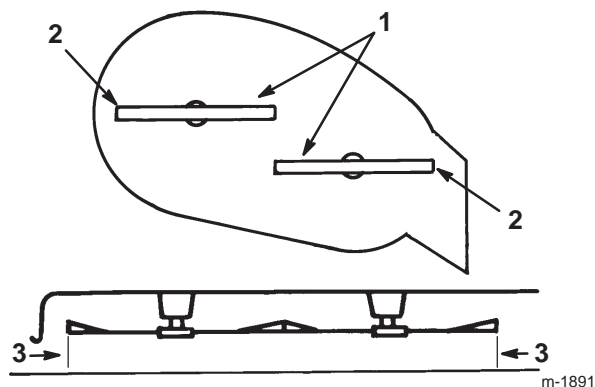

Figure 47
8. Carefully rotate the blades side to side (Fig. 47).
9. Measure between the outside cutting edges and the flat surface (Fig. 47). If both measurements are not within 3/16 in. (5 mm), adjust them; refer to steps 10 through 13.